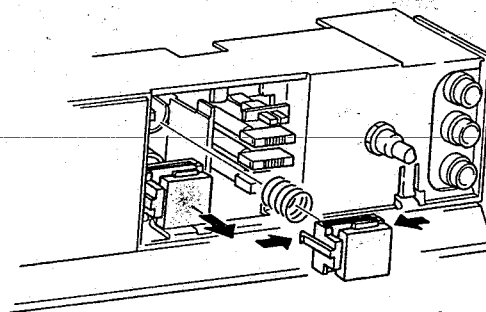

Fig. 9
- 6) Pull the Dolby B/C NR button toward you while pressing the tab of the POWER button. (See figure 9)